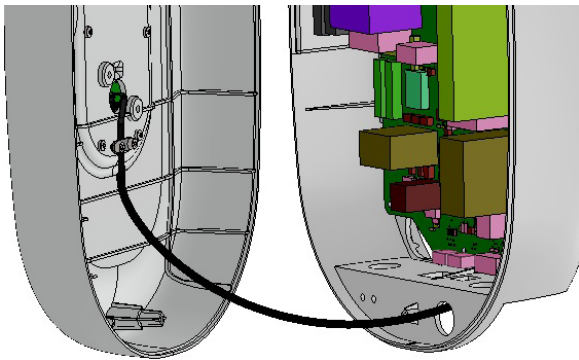

Figure 44
- Route the console cable through the hole and connect the cable to the J4 connector from the bottom side of the base unit as shown in Figure 44.